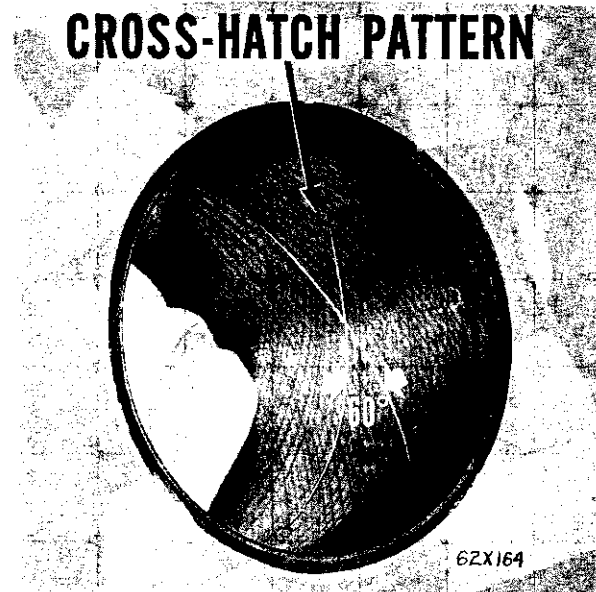

Fig. 36—Cross-Hatch Pattern
(3) Honing with Tool C-3501 should be done by moving the hone up and down fast enough to get a cross-hatch pattern. When hone marks intersect at 60°, the cross hatch angle is most satisfactory for proper seating of rings (See Fig. 36).
(4) After honing, it is necessary that the block be cleaned again to remove all traces of abrasives. Wash the cylinder block and crankshaft thoroughly.